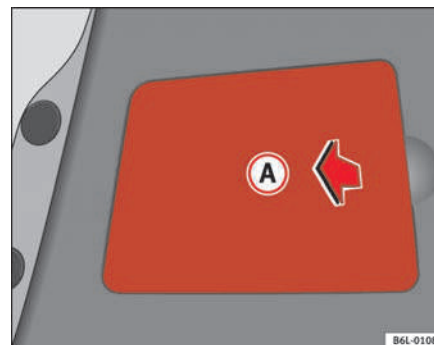

Fig. 153 Rear light on tailgate
- Remove plastic cover **(A)** ⇒ page 218, fig. 153, insert finger in opening and pull in the direction of the arrow.